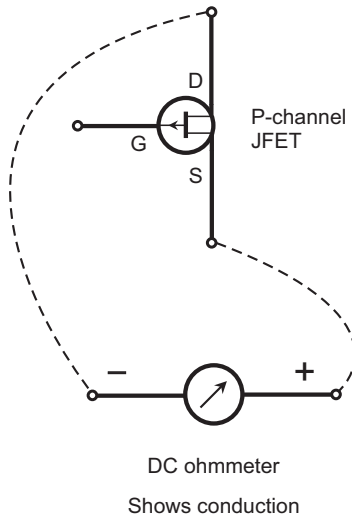

FIGURE 7-29 Electrons should flow from the drain to the source.
6. Electrons should flow from the drain to the source (Fig. 7-29).